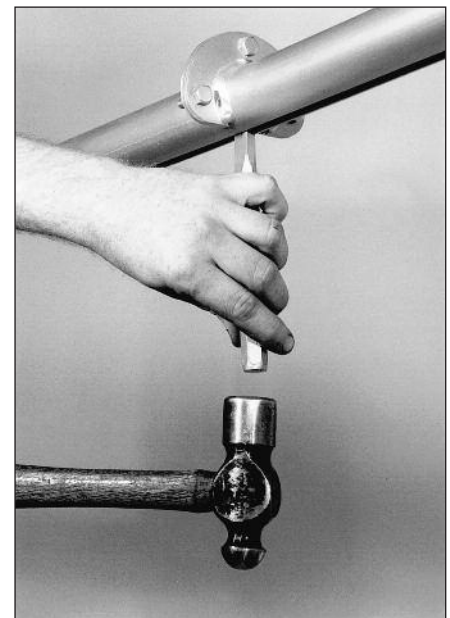

Figure 3
- Use 5/16" x 1" lg. bolts c/w lock nut. See **Figure 3**.
- Bolt two adjoining sections of conveyor together. Before tightening the bolts, make sure the slots are aligned. Use a chisel to help align the slots. **Figure 3**.